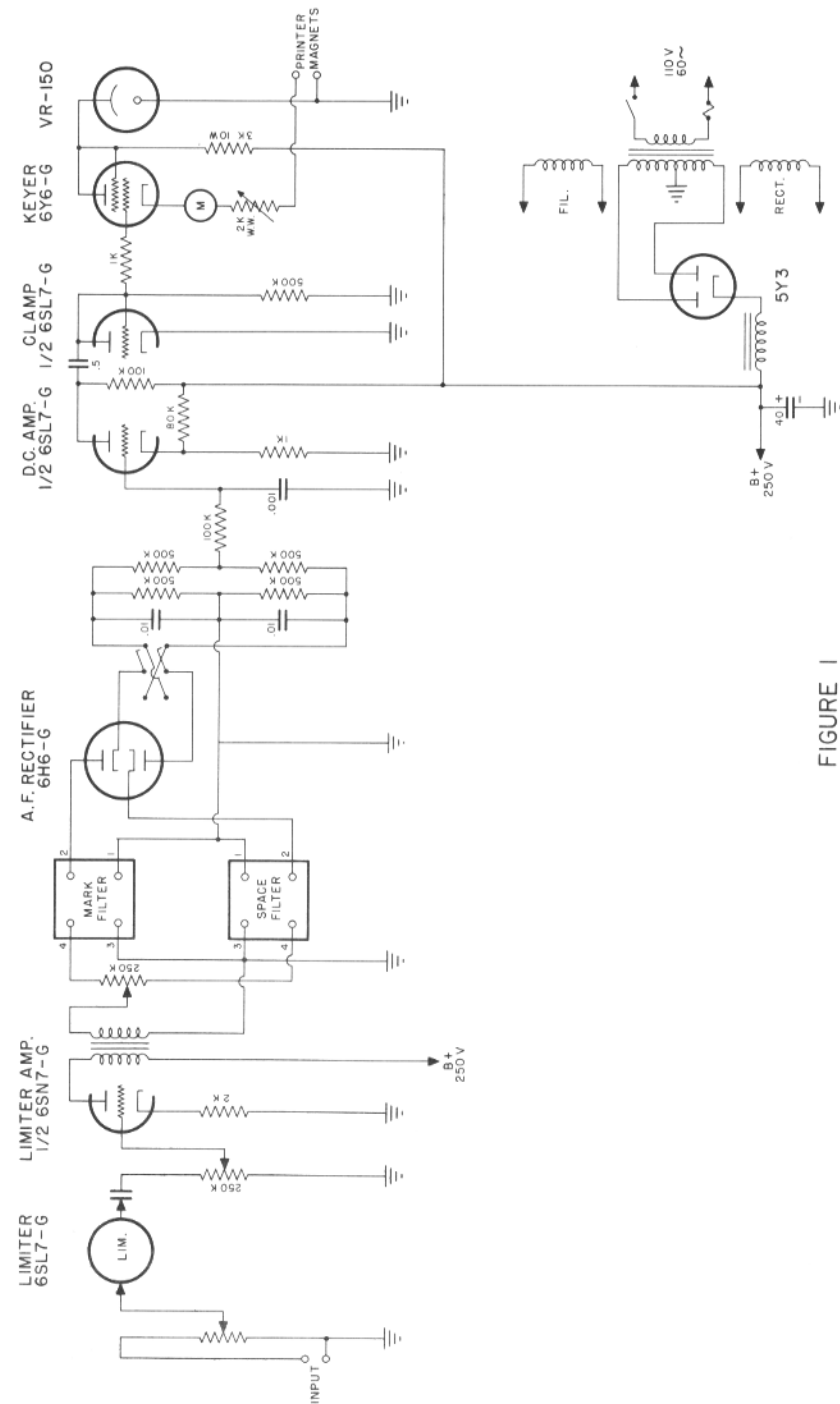

FIGURE 1
But returning to terminal units. We compared notes and found that each of us were using essentially the same circuit configuration. It was one that we had worked on together during 1950 and 1951, and that you subsequently described in RTTY. (1) Just to keep the record straight, as we go along, the general schematic is shown in Figure 1 herewith.
Referring back to Figure 2, you will note that the 0.5 Meg. grid resistor of the keyer tube has been replaced by a potentiometer of the same value in order to reduce the grid-swing. This is necessary because plate current cut-off of the keyer is now reached with only about -14 volts on the grid. Under the old arrangement the degenerative effect of the bias resistor and the printer magnets in the cathode circuit (including the back-emf of the magnets) required a grid swing of many times this amount to reach effective cut-off. In fact, as W4EHU pointed out, only by providing such an "over-swing" can the cathode system be made to operate with any reliability at all. The d.c. amplifier shown in Figure 1 has a plate swing of about 150 volts at full output.
object of the original condenser-clamp-tube coupling system shown in Figure 1 was to obtain a "semi-diversity" effect between the mark and space channels. Fading on the higher frequencies is often of the so-called "selective" variety, and it can be observed that the mark and space signals, while only 850 cycles apart, tend to fade in and out independently of each other. The idea was to have the terminal unit print equally well on either mark or space signals alone, or in any combination with each other. Then, when there is rapid switching between mark and space signals such as in tape transmission, it was reasoned that diversity reception between the two channels would give more dependable copy.